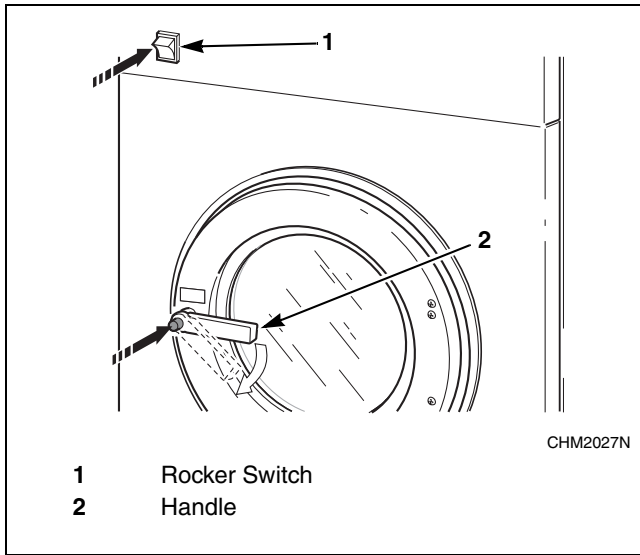

Figure 10
2. With left hand, push and hold white rocker button. Refer to *Figure 10*.
3. Push button and turn handle clockwise to open. Refer to *Figure 10*.